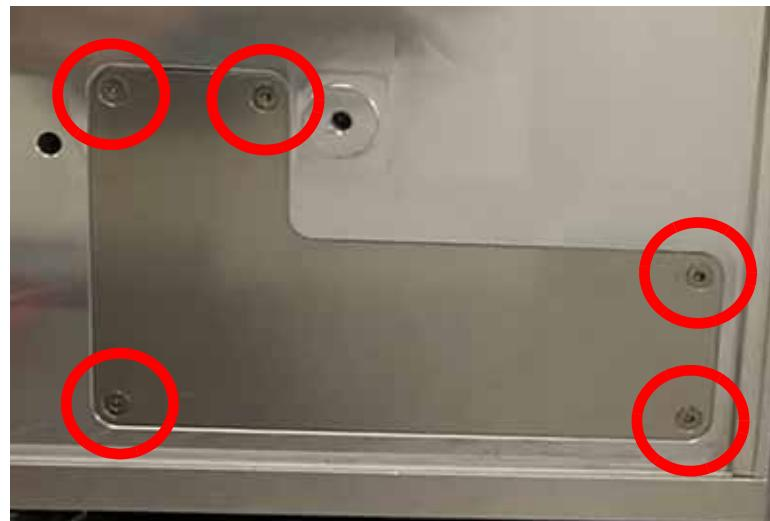

Figure 4.3-2. Removing the Cover-Plate
3. Remove the cover-plate which requires a 2mm screwdriver to remove the five screws. See Figure 4.3-2.